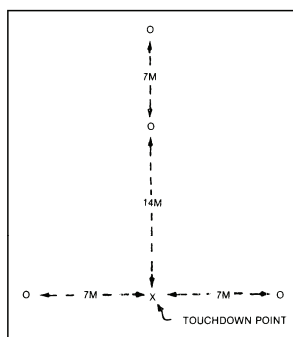

Figure 3-18. Landing site
1. As the aircraft approaches, provide the pilot with tactical and security information. Tell him of conditions that may affect his landing such as terrain, weather, landing site markings, and possible obstacles. Refer to Figure 3-18.